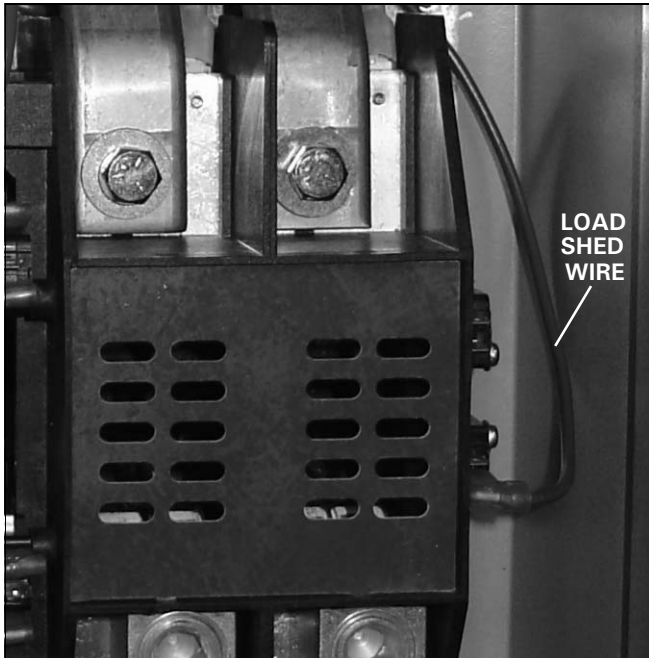

Figure 97. Load Shed Wire Connected to the Auxiliary Switch (100 A and 200 A).
Step 4: Connect one of the supplied wires to terminal # 13 on the load shed. Route the wire from the load shed to the auxiliary switch on the right side of the contactor. Cut the wire to the proper length and strip 0.25 in. (6.35 mm) of insulation from the end of the wire. Crimp the smaller female flag connector supplied onto the end of the wire. Connect the female flag connector to the male flag terminal on the auxiliary switch (see Figure 97).